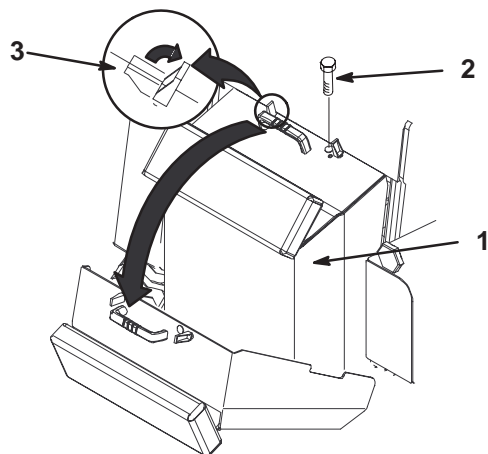

Figure 22
2. Release the two locking tabs on top of the rear access cover (Fig. 22).
3. Remove the bolt located next to the right locking tab (Fig. 22).
4. Grasping the handle, pull the cover up and back to swing it open (Fig. 22).